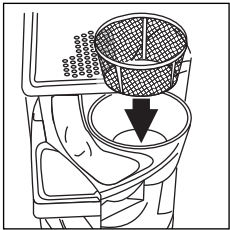

fig. 3
- Place the permanent filter in the filter holder (if provided) of the paper filter in the filter holder (fig. 3).